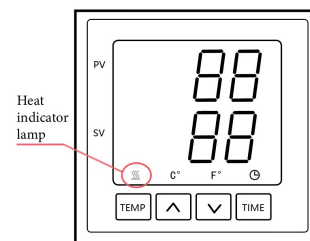

Fig 3
4.After waiting for 10 to 15 minutes, when the equipment has heated to the set temperature, the equipment stops heating as indicated by the Heating indicator LED.(As shown in Figure 3)